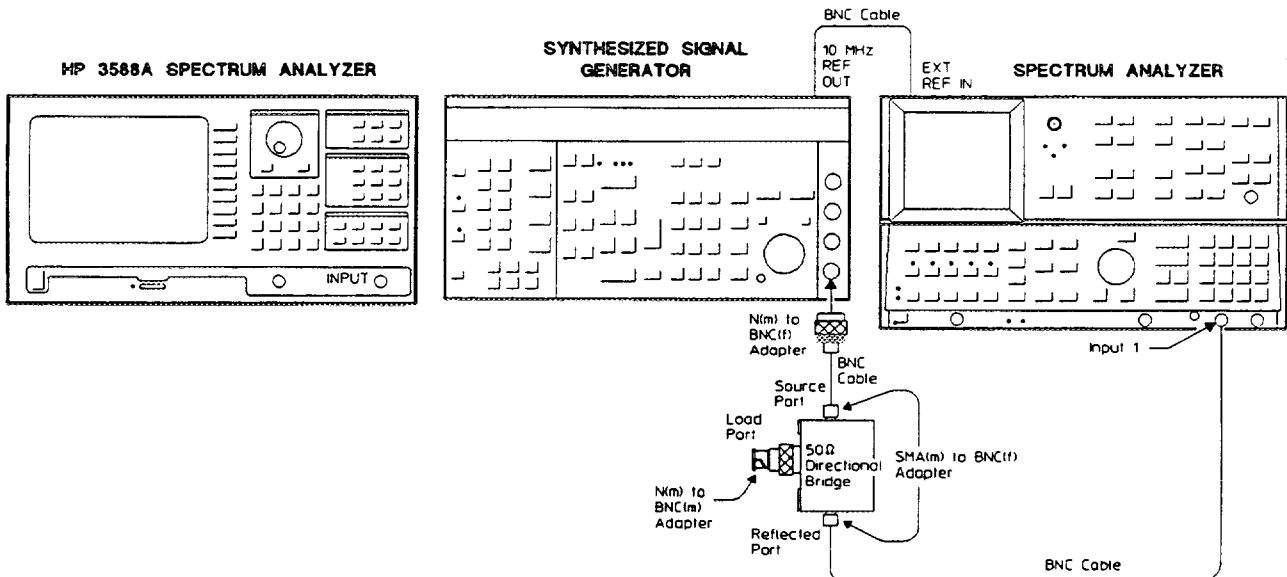

Figure 3-16. Input Return Loss Setup
- SMA(m)-to-BNC(f) Adapters (2)
- BNC Cables (3)
1. Connect the test equipment as shown in figure 3-16.